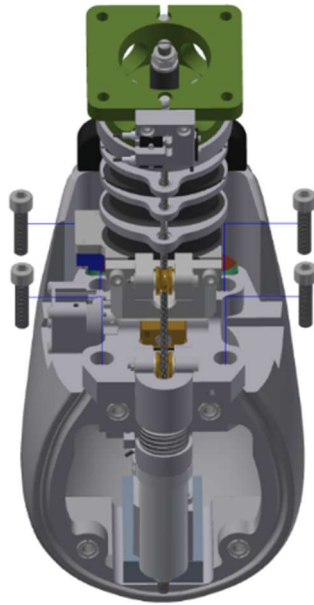

Figure 3-33. Head and neck assembly
- 3.3.14 Fasten the head, neck, and sensor mounting plate (474-1031) together using four M6 X 1 X 25 SHCS from the underside of the head, through the sensor mounting plate (Figure 3-33)